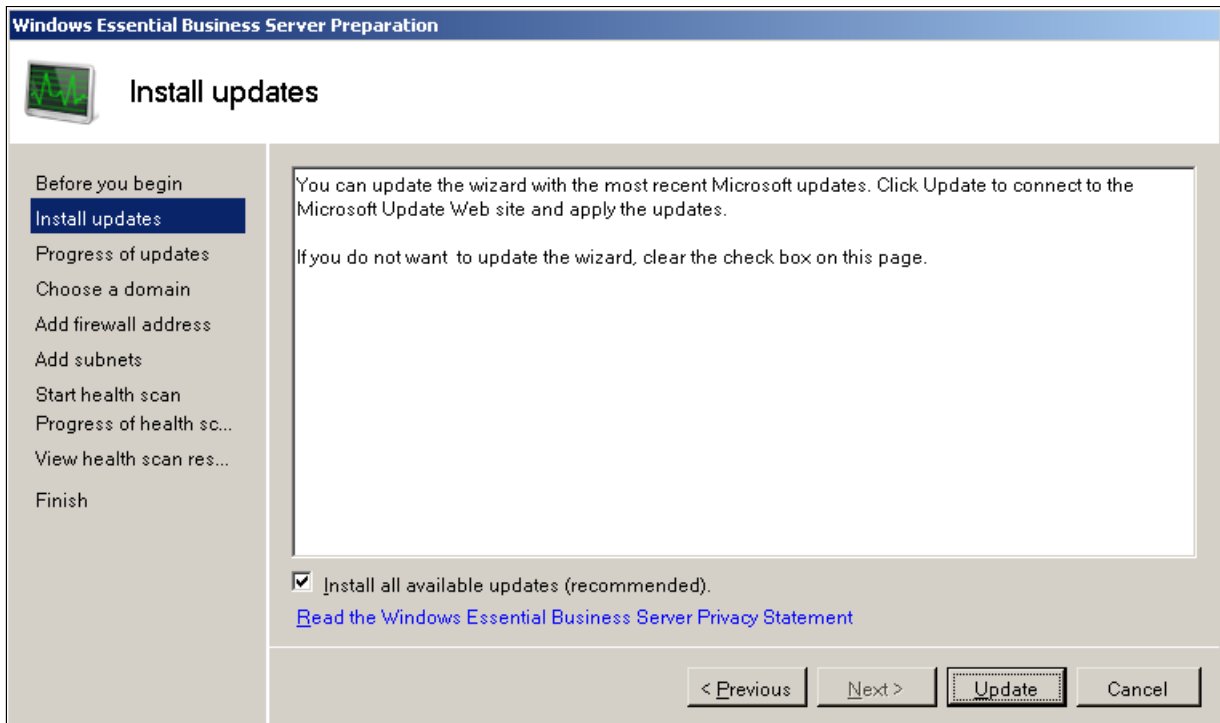

Figure 3-2 Preparation Wizard update
2. Click **Update** on the “Install updates” panel (Figure 3-2) to search for any updates to the wizard.